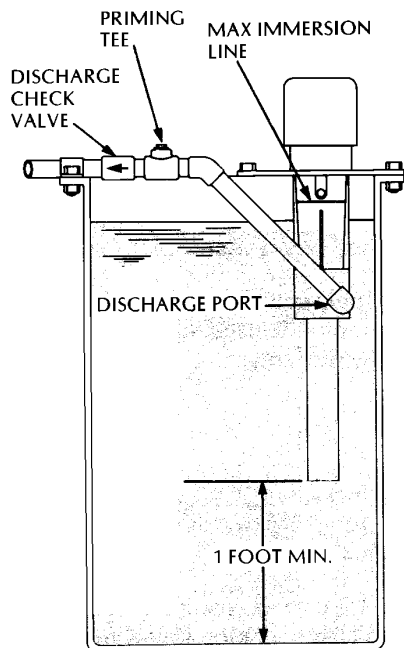

Fig. 1
- Install pump inside tank (See Figure 1).
- Mount pump vertically with motor above highest liquid level in the tank. Be sure that highest liquid level in tank is below 'Maximum Immersion' line (molded into body) located below weep hole on pump body column (See Figure 1).
- Be sure that fluid level covers discharge port after shutoff (see Fig. 1).